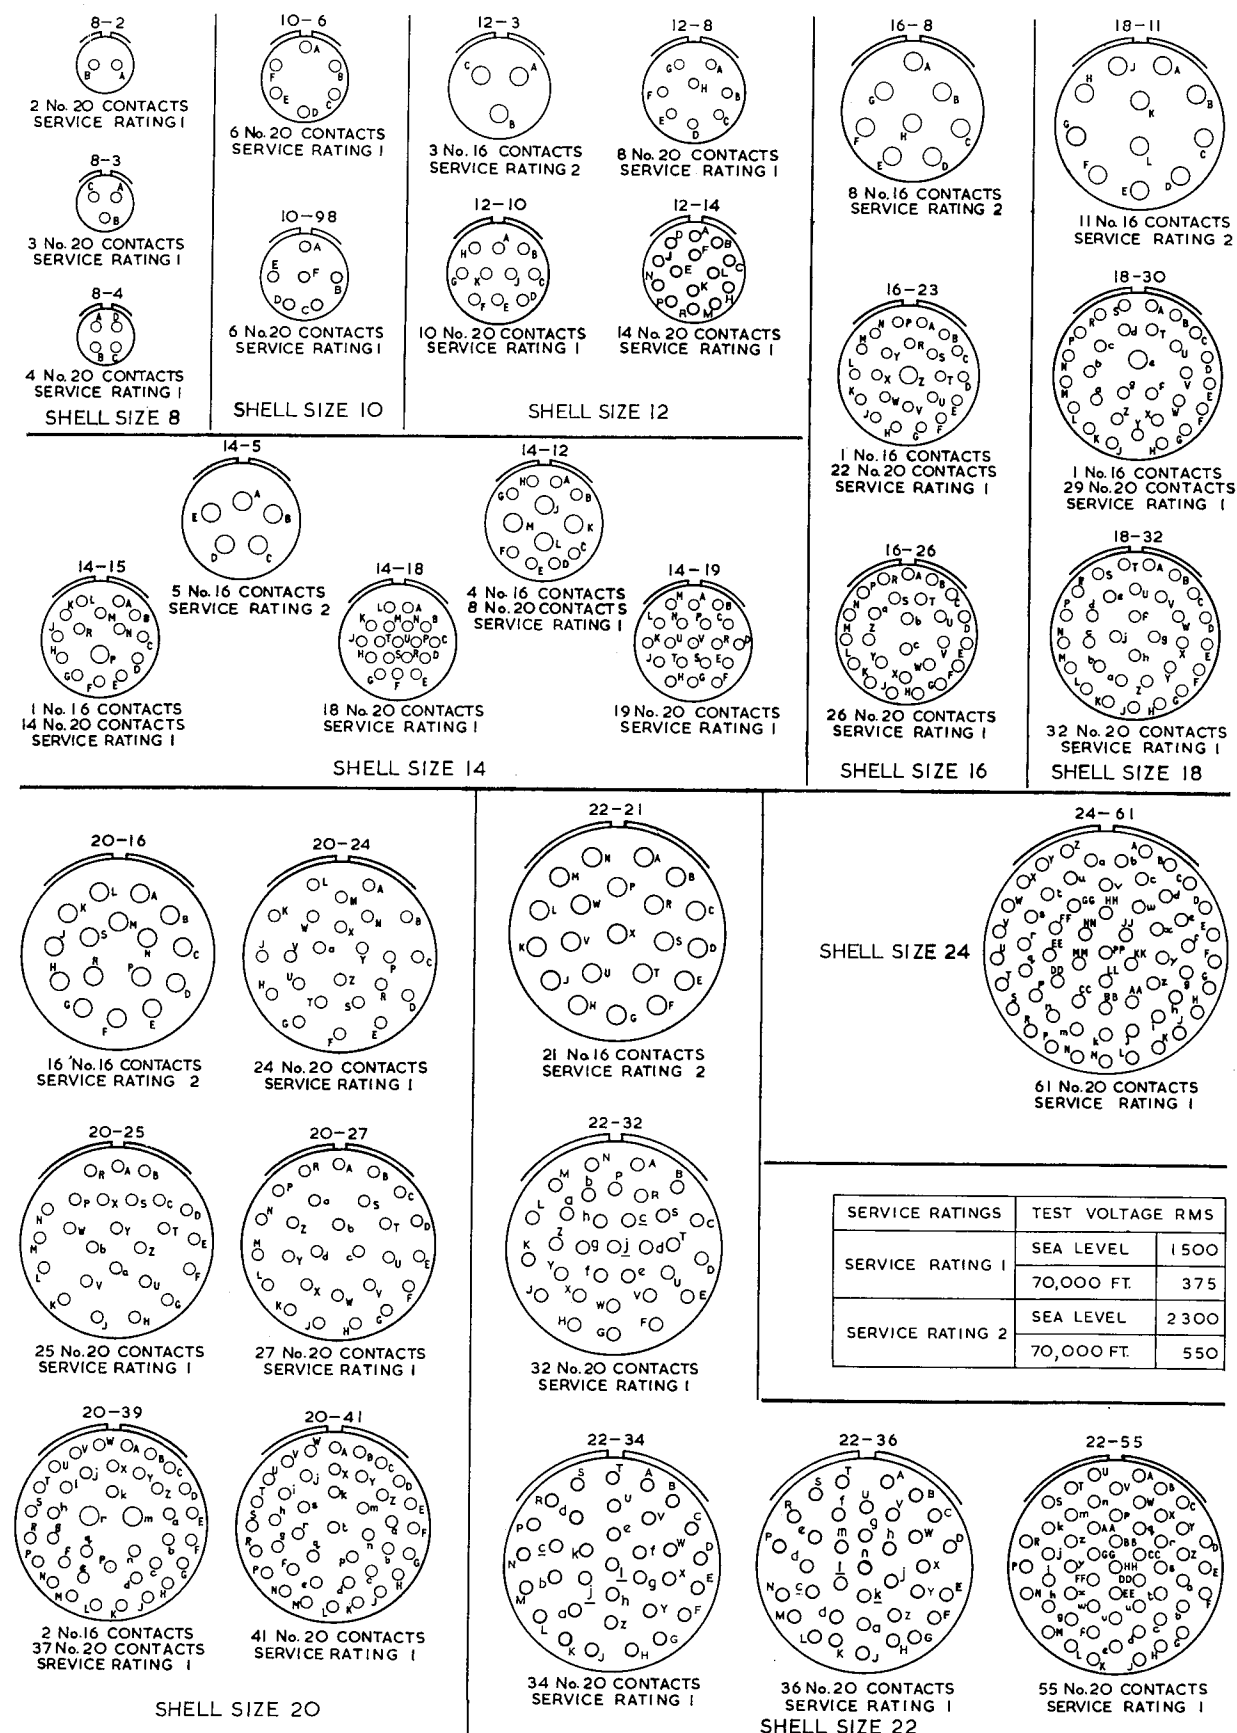

Fig. 4. Contact arrangements
11. Fig. 4. shows the insert arrangements available in each shell size. Also the number and size of contacts fitted to each arrangement.